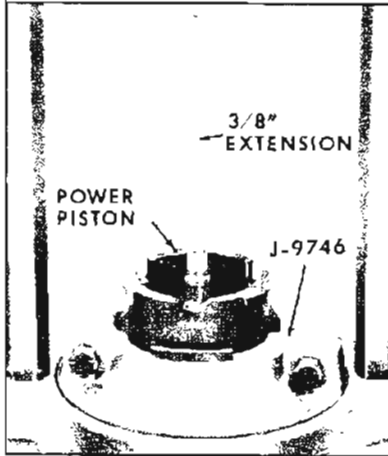

Figure 9-48—Removing Air Value Assembly
10. Set up J-6180-01 Power Ram and J-6207 Hydraulic Pump with J-8609 Press Plate. Insert power piston, tube down, in press plate, and remove air valve assembly using a 3/8" drive extension as a remover. See Figure 9-48.